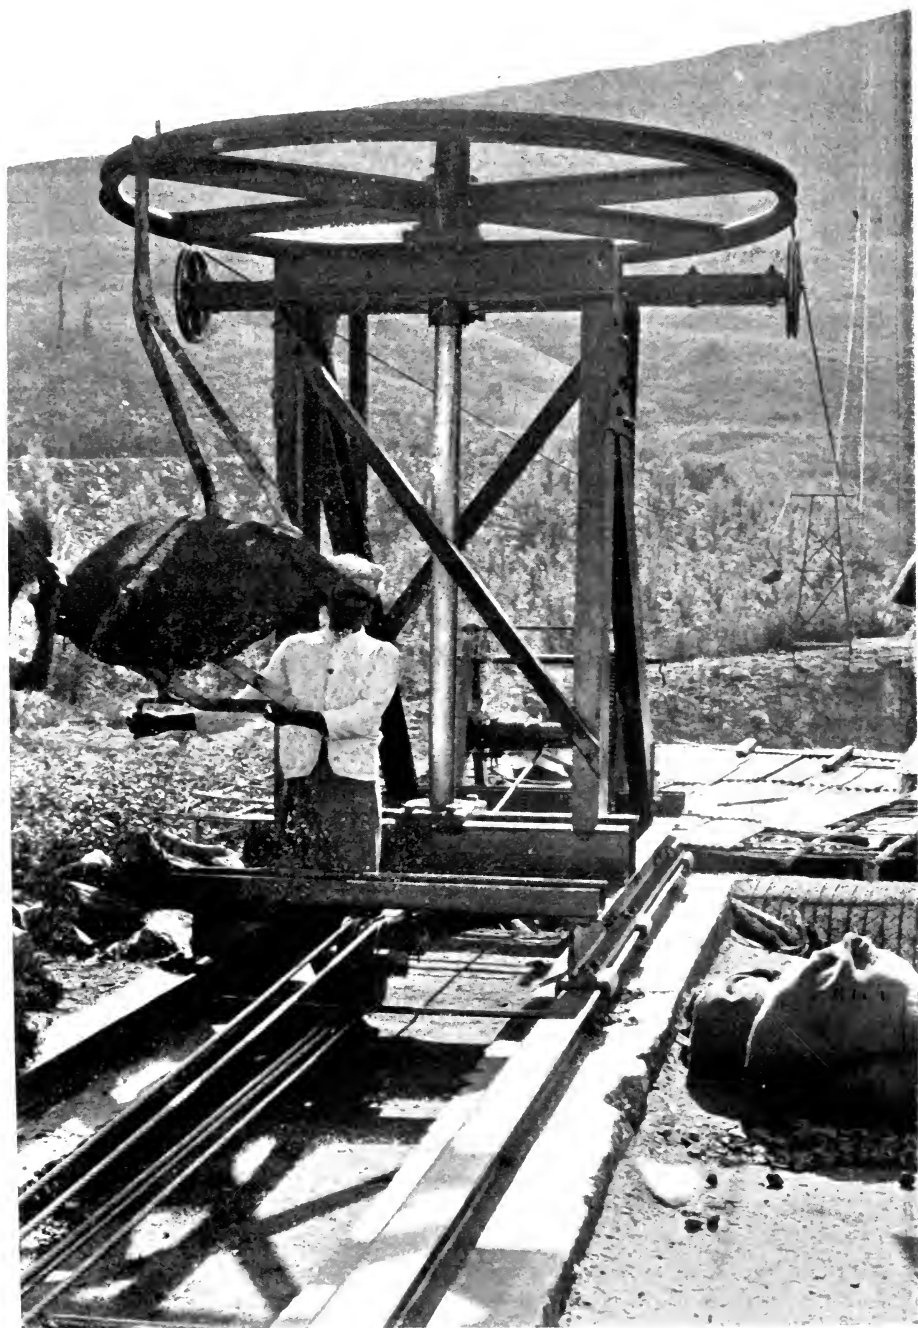

FIG. 28. VIEW OF AERIAL WIRE IN CAYTON, ABOUT 100 FEET MILES IN LENGTH, LEADING TO A TERMINAL, SHOWING DISCHARGING TERMINAL.
*U.S. GEOLOGICAL SURVEY, BUREAU OF MINES, GEOLOGICAL AND MINING INVESTIGATION, No. 100, Plate 10, Fig. 28.*